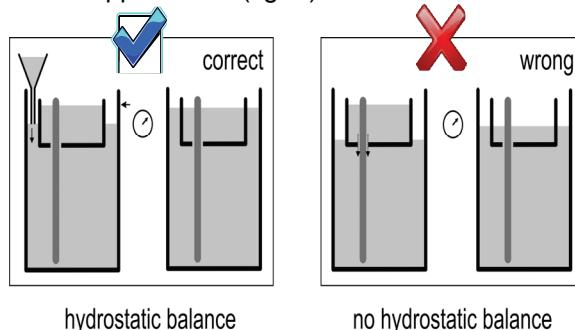

Fig. 2
10. Immediately fill the lower buffer tank with distilled water to the same filling level as in the upper buffer (fig. 2).